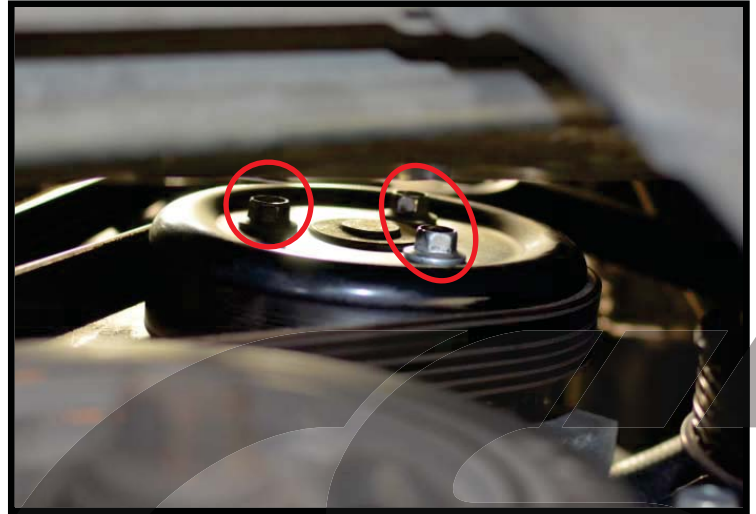

Figure 3a
- a) **Loosen the three bolts holding the water pump** using a long 10mm box end wrench. Red circles in Fig 3a.
The engine may turnover due to trying to loosen the bolts. Allow the engine to turnover until it builds compression and stops; holding the pulley. If this does not work, try pulling down (red arrow in Fig 3a) on the belt to add more tension then jerk bolt with the wrench.